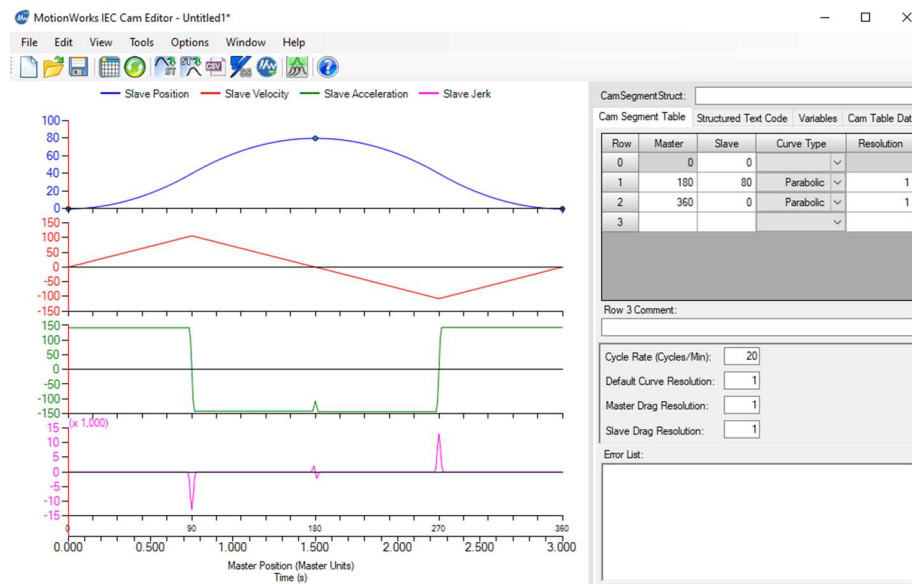

Figure 8: Finished CamEditor Window
- After entering the values in Figure 7, the CamEditor window should look like Figure 8.